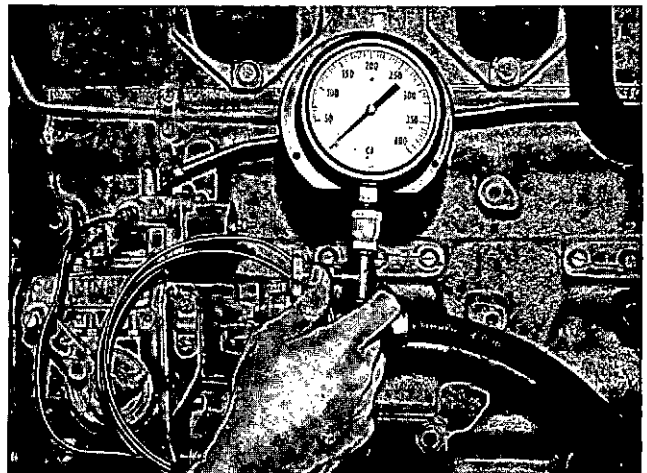

Fig. 5-40. Checking fuel manifold pressure
1. Check maximum fuel manifold pressure with ST-435. Remove plug from shut-down valve and connect gauge line. Run engine up until governor "cuts in" and check maximum pressure reached. Compare with previous readings to determine if fuel pressure output is satisfactory. Normally this check is required only if loss of power is suspected. Fig. 5-40.